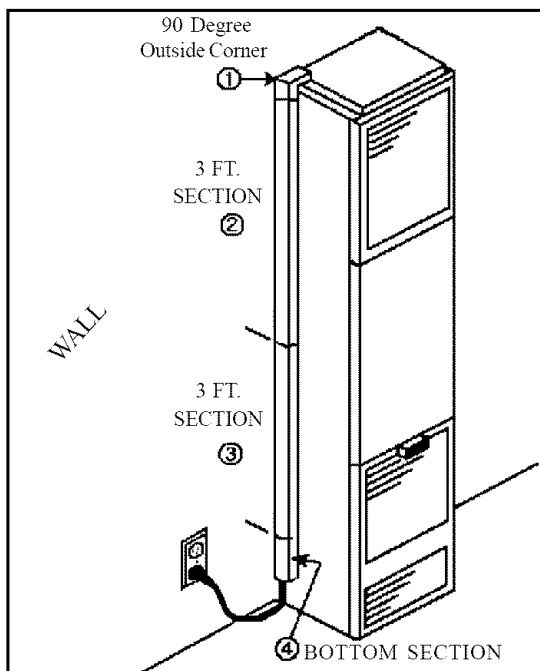

FIGURE 18
- STEP 11.** Snap 90 Degree outside corner (Ref. 1) onto 3 ft. section (Ref. 2) plastic raceway. Insert power cord and remove blue backing from adhesive strip on raceway and apply to side of heater. See Figure 18.
- STEP 12.** Insert power cord into second 3 ft. section of raceway (Ref. 3) and remove blue backing and apply to side of heater, butting up against bottom of other section. See Fig. 18.
- STEP 13.** Cut 14 inch long bottom section to required length (see chart), insert power cord, remove backing and apply to side of heater. See Fig. 18.
- STEP 14.** Plug power cord into wall receptacle, see Fig.18.